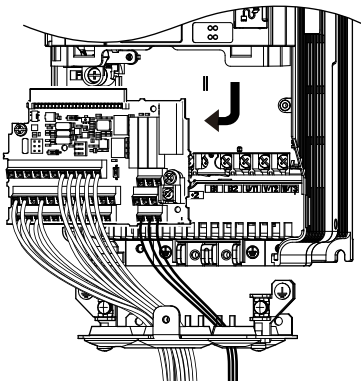

Figure 7.69 Remove the Terminal Board
3. Slide the terminal board as illustrated by the arrows in Figure 7.69 to remove it from the drive along with the bottom cover.